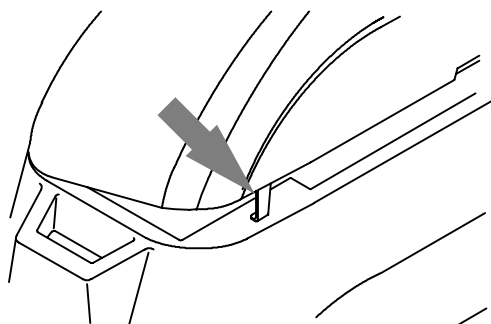

FIG. 52
- Rest the recovery tank on the support stand to promote ventilation during charging (Figure 52).